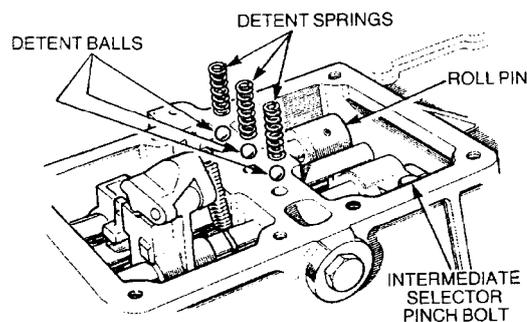

Figure 152 Removing the Detent Spring
- h. Remove the detent springs, taking note that the reverse spring is painted yellow (Figure 152). Remove the detent balls by using a small magnet.